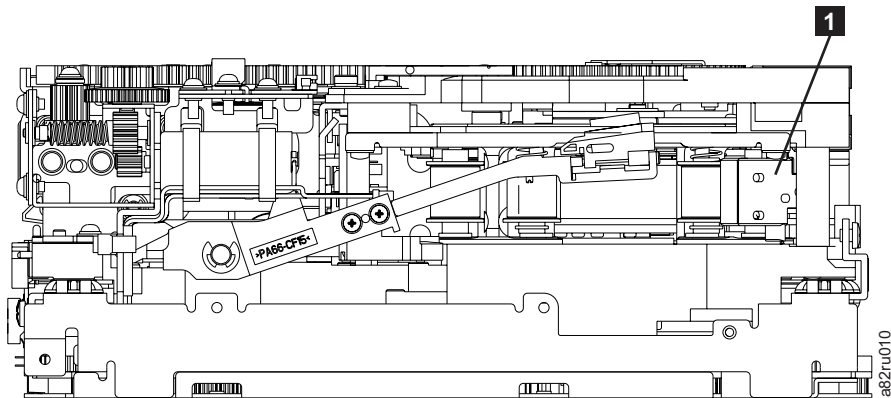

Figure 8-76. Leader Block Assembly (LBA)
7. Rotate the threader motor worm gear (4 in Figure 8-74 on page 8-78) to turn the threader mechanism gear (6 in Figure 8-74 on page 8-78) counterclockwise. This moves the LBA out of the cartridge and past the read/write head. Stop this rotation when the LBA is near the tape guide roller nearest the rear of the drive (1 in Figure 8-76).